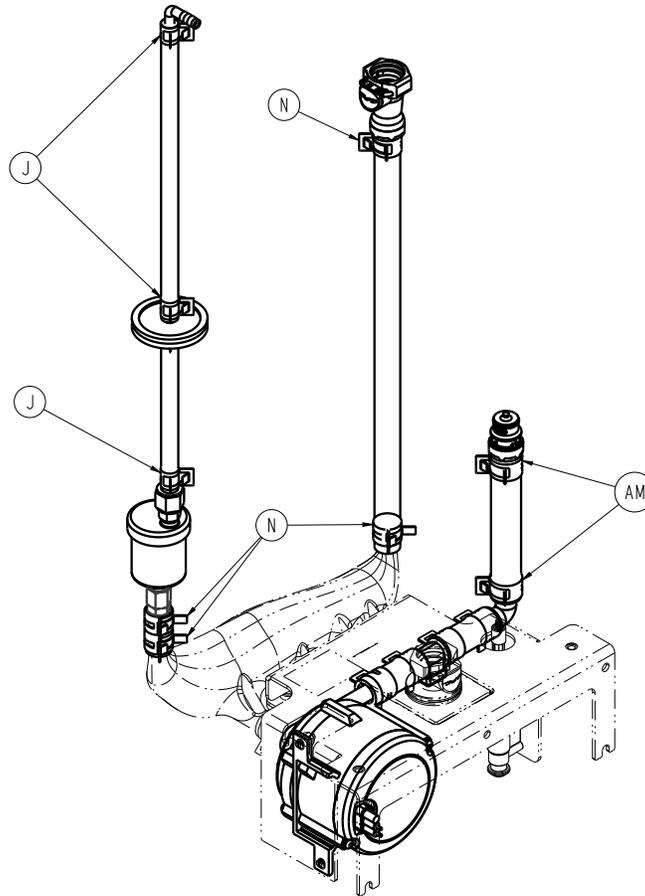

Figure 19 – Secure tubing
5. Using needle nose pliers, remove the two hose clamps (N) that secure the tubing to the reservoir (Figure 19). Save the clamps.